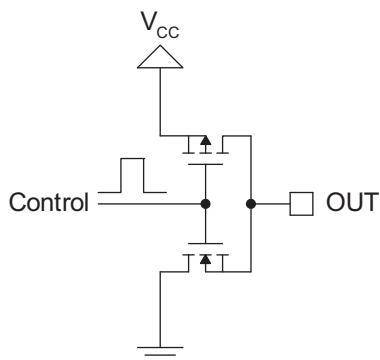

Figure 1: Push/ Pull Output Circuit.
2. T_{ON} is the time after latch timeout to 90% of the output voltage. See Figure 1.
3. T_{OFF} is the time after off timeout to 10% of the output voltage. See Figure 1.
Each device push/pull output may be represented by the following circuit and simplified equivalent model (Figures 1 and 2):